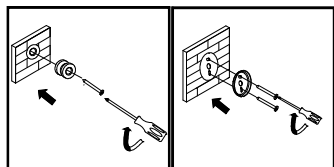

FIGURE 5
- Align brackets with installed plastic screw and secure with screws provided. (FIGURE 5)